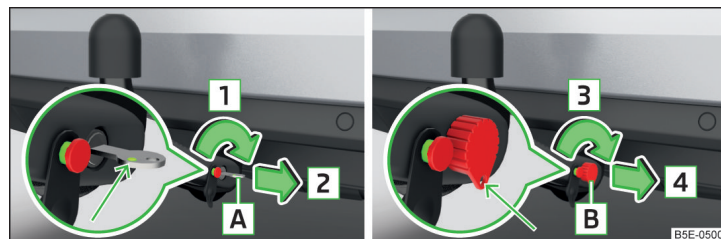

Fig. 165 Lock lock: Key Version 1 / key Version 2
- Turn the key **A** in the direction of arrow **1**, so that its green mark is visible » Fig. 165.
- Turn the key **B** in the direction of arrow **3** so that the conclusions release points down » Fig. 165.